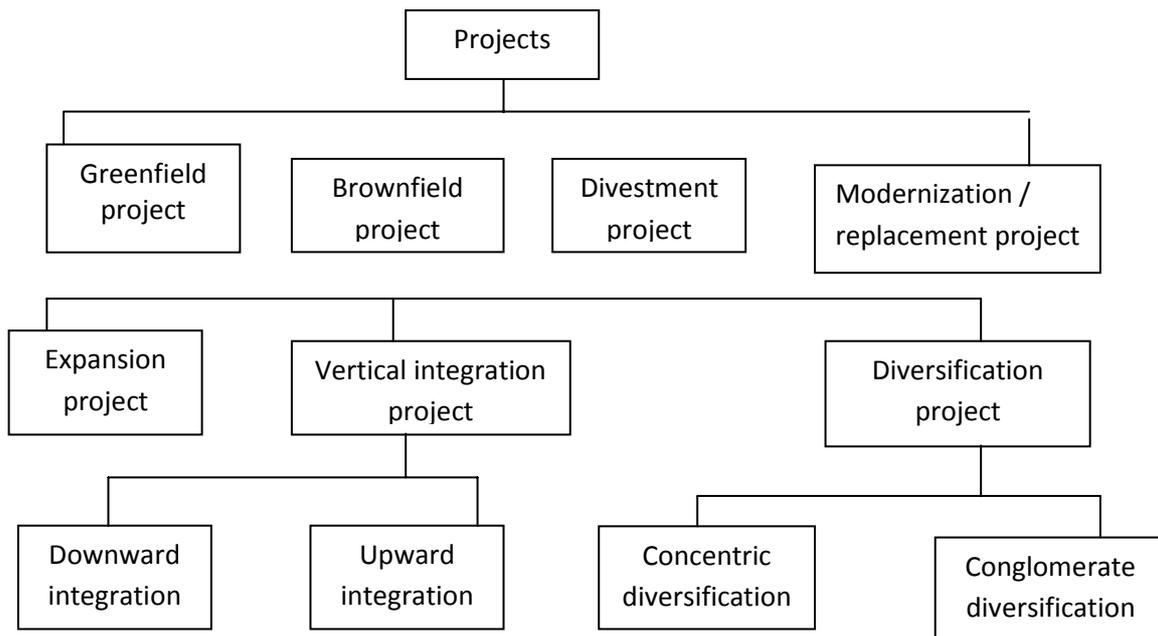

Figure 2.3 Project classification based on risk
2.3.4 Classification based on risk: This is the most commonly used basis of project classification. Projects are basically classified as greenfield project, brown field project, divestment project and modernization or replacement project. The classifications and sub-classifications on the basis of risk are depicted in Figure 2.3.